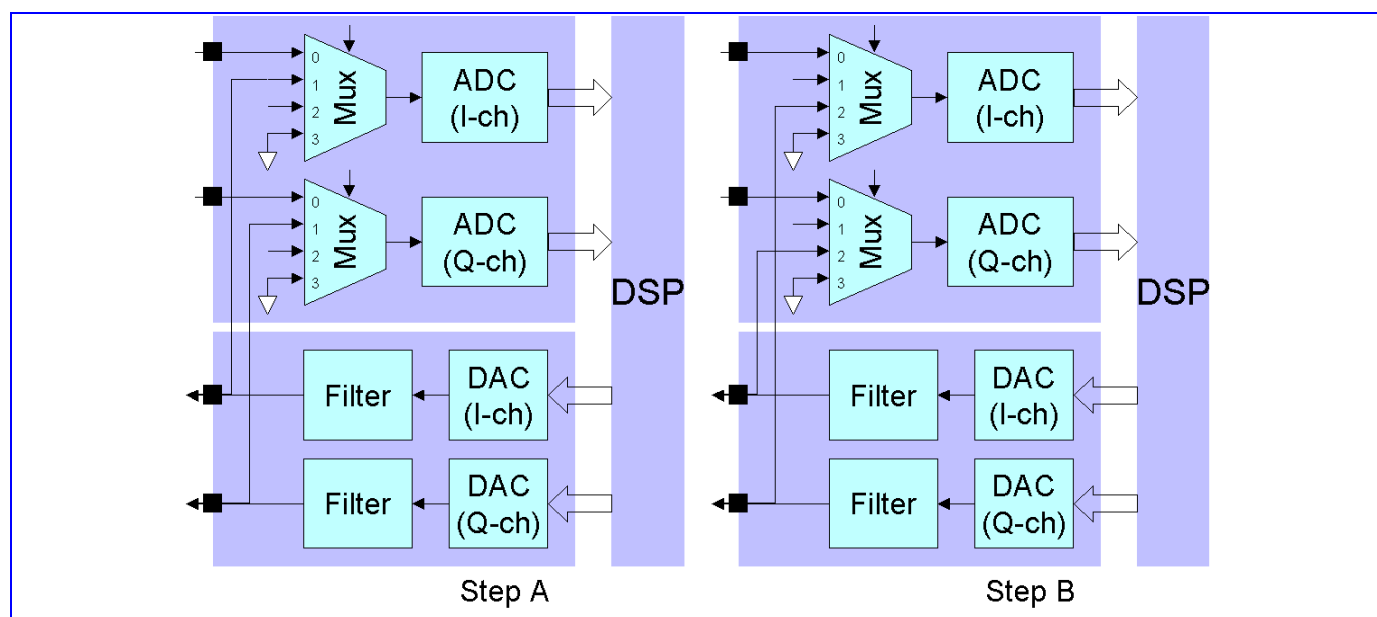

Figure 80 Downlink RX and Up-link TX Gain Mismatch Measurement (A) I/Q TX connect to I/Q RX (B) I/Q TX connect to Q/I RX
- A. The uplink I-channel output are connected to the downlink I-channel input, and the uplink Q-channel output are connected to the downlink Q-channel input. This can be achieved by setting **ISEL [1:0]** = '01' and **QSEL [1:0]** = '01' (shown in **Figure 80 (A)**).
B. The uplink I-channel output are then connected to the downlink Q-channel input, and the uplink Q-channel output are connected to the downlink I-channel input. This can be achieved by setting **ISEL [1:0]** = '10' and **QSEL [1:0]** = '10' (shown in **Figure 80 (B)**).